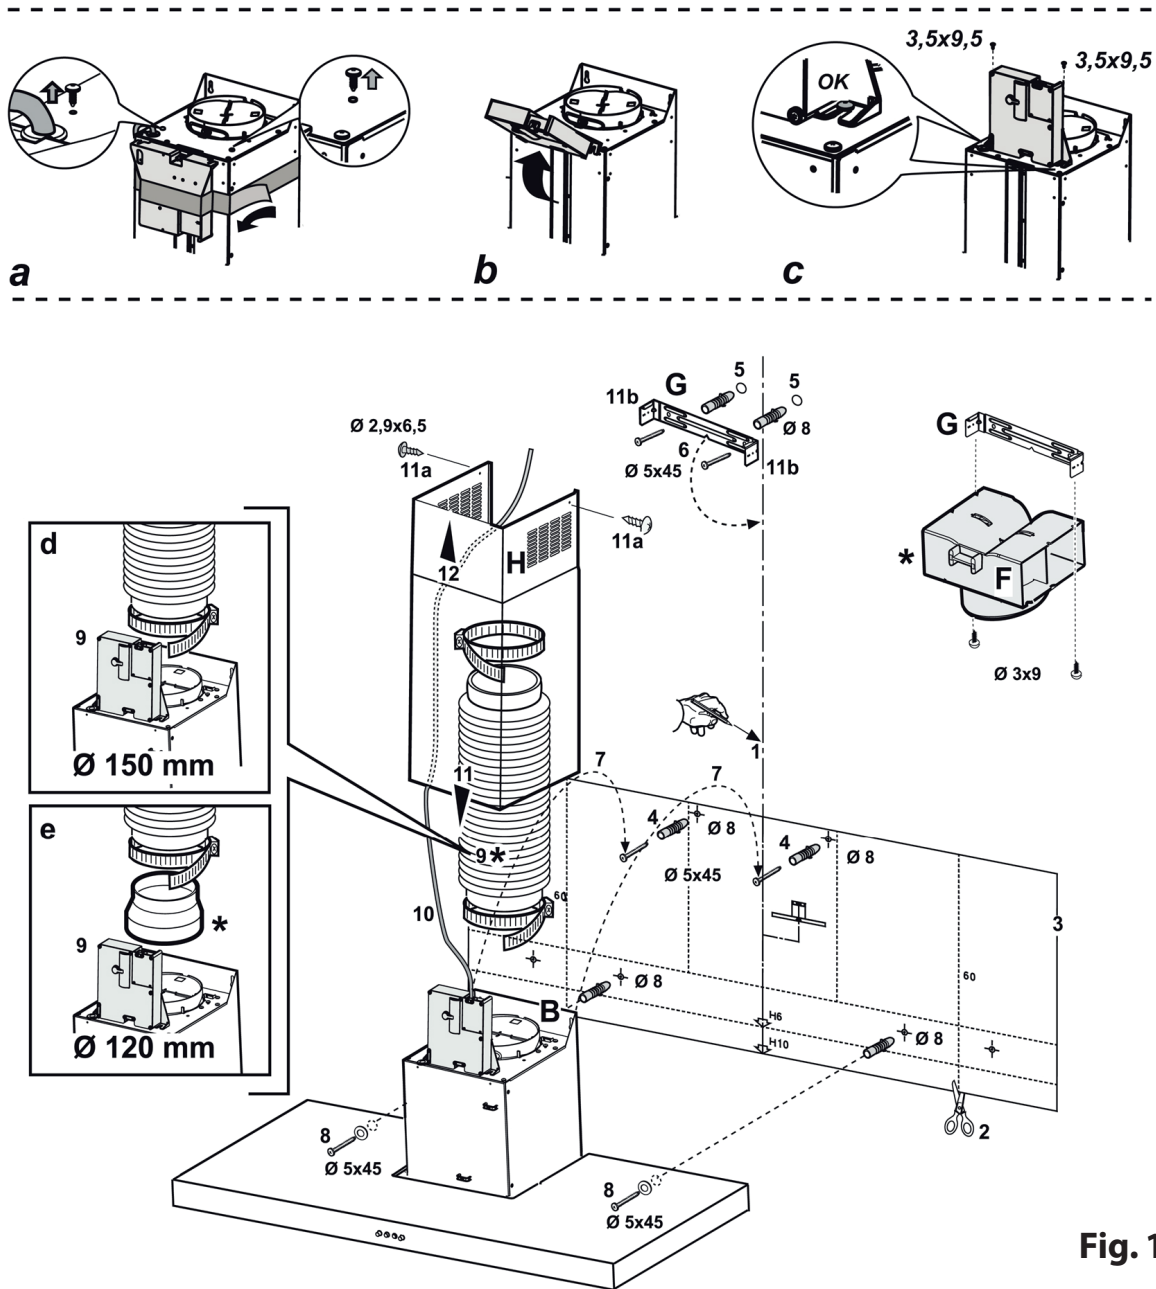

Fig. 1
1. Using a pencil, draw the centre line on the wall up to the ceiling (Fig.1).
5. Fit the flue support bracket “G” (Fig.1) to the wall and against the ceiling. Use the support bracket as drilling template (if present, the small slot on the support must match the line drawn on the wall) and mark 2 holes with the pencil, drill the holes and finally insert 2 plugs.
7. Remove the drilling template from the wall and hang the hood on the 2 top screws (Fig.1).
9. Connect an exhaust pipe to the exhaust pipe connector located above the extraction motor unit. For extractor operation, connect the other end of the exhaust pipe to the home discharge device. For filter operation, fix the deflector F to the flue support bracket G and connect the other end of the exhaust pipe to the deflector collar F (Fig.1).